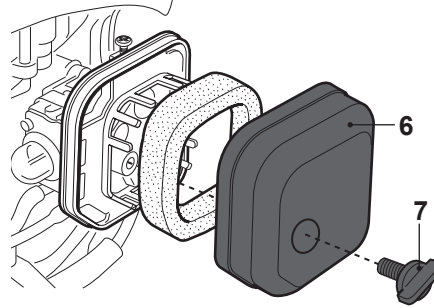

Fig. 17
- > Open the air filter case by losing the fixing screw (7). Then remove the screw (7), cover (6) and take the filter out (Fig. 17).